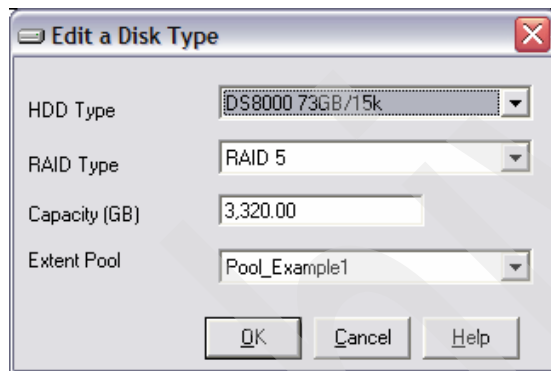

Figure 4-36 Inserting the capacity for the planned number of ranks
- g. In the Edit a Disk Type window (Figure 4-36), enter the desired capacity to achieve modeling of the planned number of ranks.